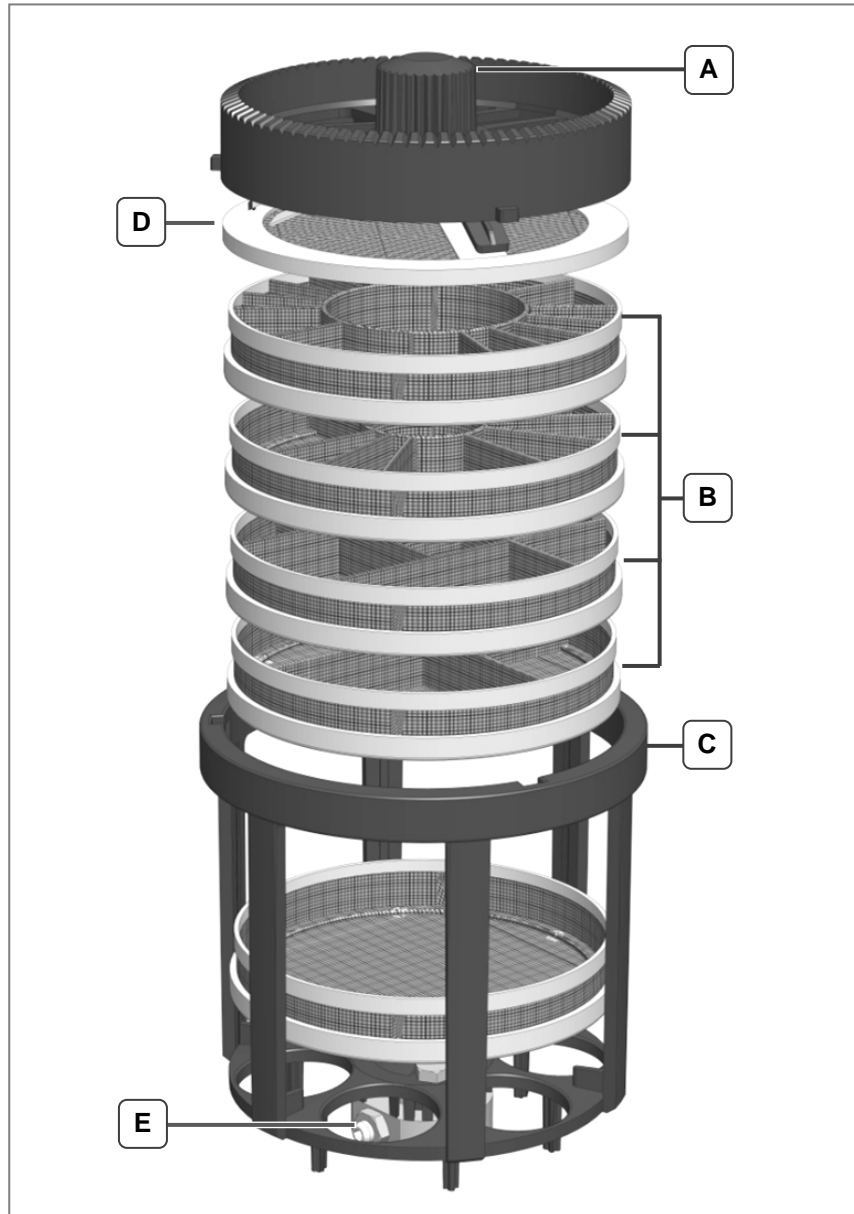

Fig. 6.2.2 Basket holder structure
The individual basket inserts (Fig. 6.2.2.B) can now be removed from the basket holder (Fig. 6.2.2.C).
Place the basket lid (*Fig. 6.2.2.D*) in the top position.
**Attention!** Check that the basket holder locking (*Fig. 6.2.2.A*) is correctly locked before placing in the cleaning chamber.